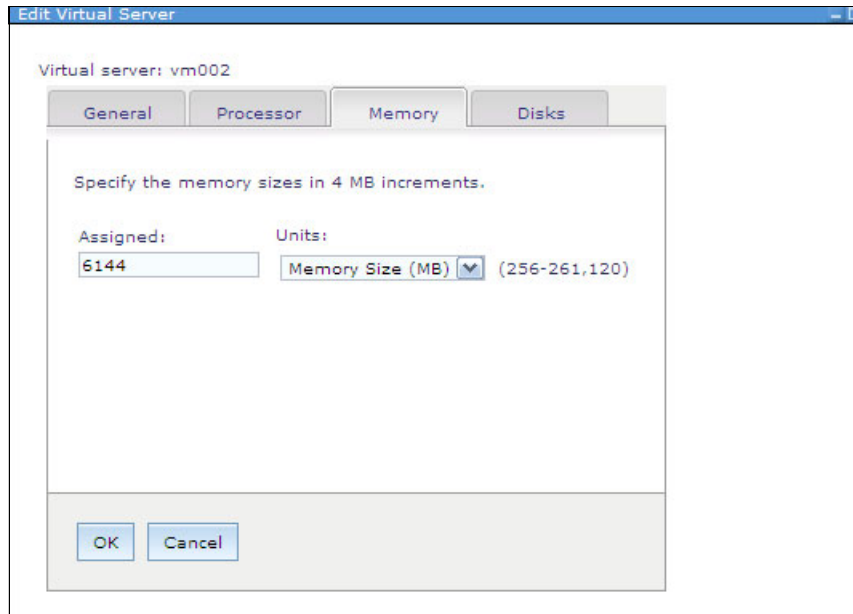

Figure 11-44 Memory tab of the Edit Virtual Server window
6. Observe the current memory that is assigned to the virtual server, as shown in Figure 11-44.